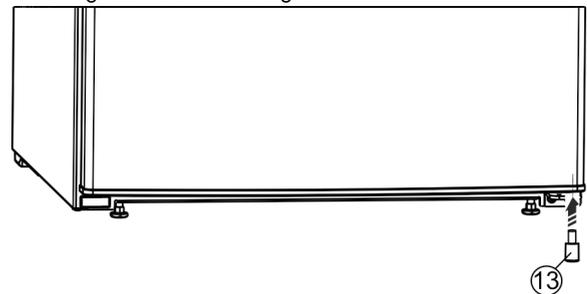

Fig. 25 \*
- ▶ Insert the spacer Fig. 25 (13) back under the right-hand side of the door, as it is important for the stability of the appliance.\*